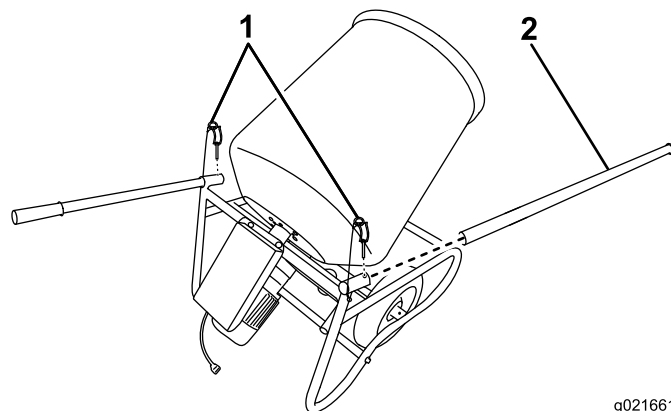

Figure 9
1. Slide handlebars into place, and secure them using the locking pin (Figure 9).